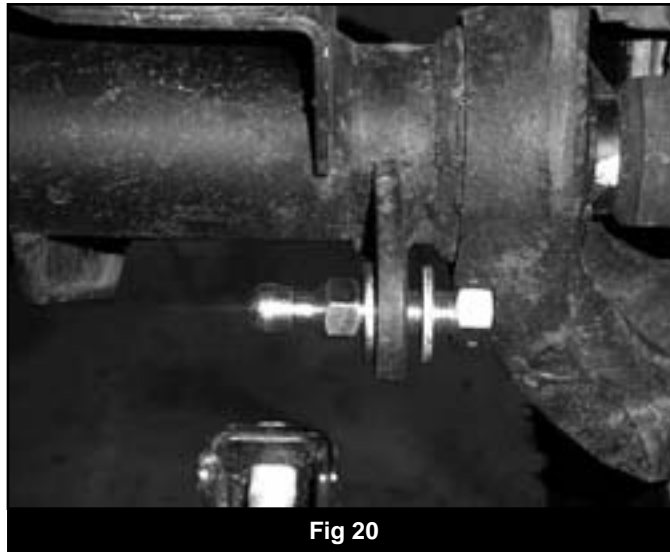

Fig 20
52. Install the new sway bar link disconnect ball stud to the original sway bar link mount on the axle. Attach the stud so that the ball is toward the center of the vehicle. Use one 1/2" SAE washer on each side of the mount and fasten with a 1/2" nut (BP 912). Torque nut to 65 ft-lbs. (Fig 20)